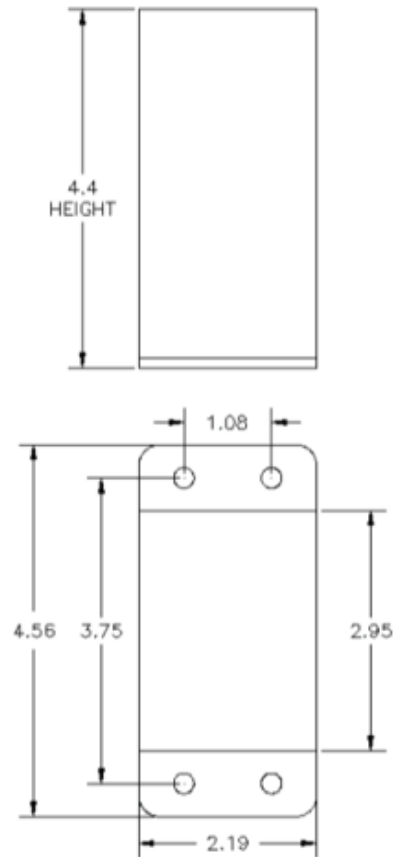

FIGURE A5.8: 47269 Smart Monitor dimensions.
2. Mount the Smart Monitor inside an existing control panel or other suitable protective enclosure. See Figure A5.8 for Smart Monitor mounting dimensions.